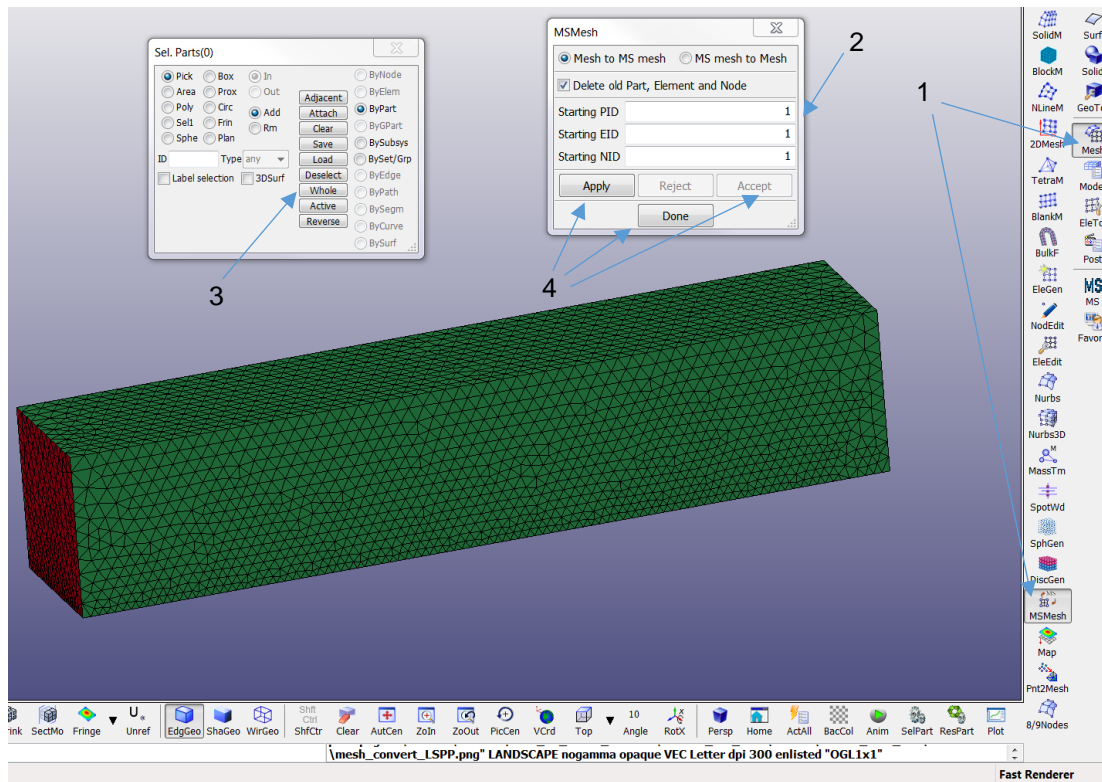

Figure 3 How to convert the mesh to a ICFD mesh.
1. Open the mesh in LS-PrePost and select Mesh/MSMesh, see Figure 3.